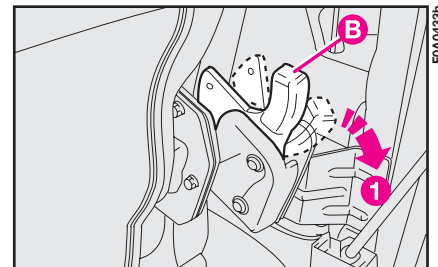

fig. 127
- release the right locking lever **B**-fig. 127 moving it to **I** (“released lever”); do the same on the left side then lower the seat back and tip the seat forward. This operation is made friendly by two springs. Make sure the seat is completely tipped.
- seat back anchoring levers, both right and left **B-fig. 127** must be at **I** (released); otherwise move both levers to position **I**;